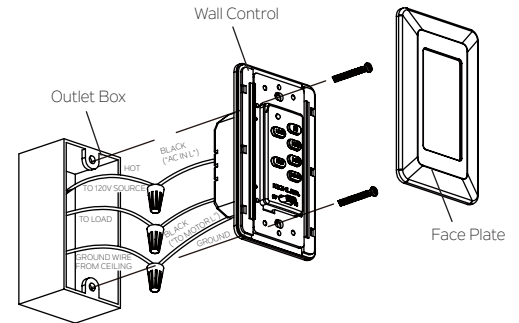

Fig. 16
Step 2. Place the wall control to the outlet box, connect the wires with wire connectors provided. (Fig. 16)